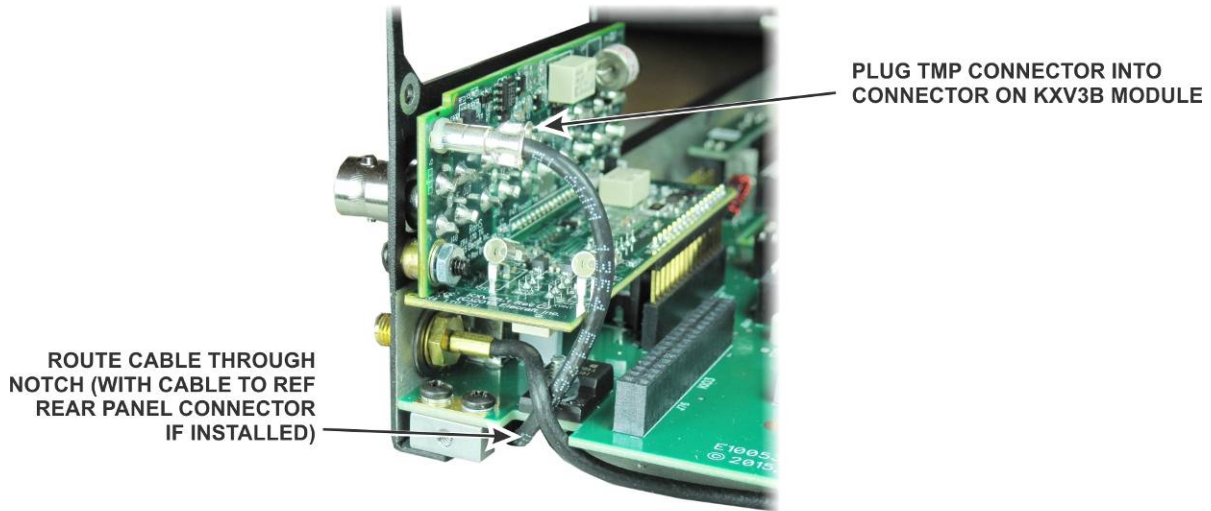

Figure 55. Connecting Coax Cable to KXV3B Module.
□ Plug the TMP coaxial connector into the KXV3B module and route the cable through the notch in the RF board as shown in Figure 55. If you have any difficulty, check the end of the cable for excess center conductor wires as shown in Figure 83 on page 58.
⚠ Be sure the coaxial cable(s) shown in Figure 55 passes through the notch in the RF board and are not trapped between the edge of the board and the side panel.